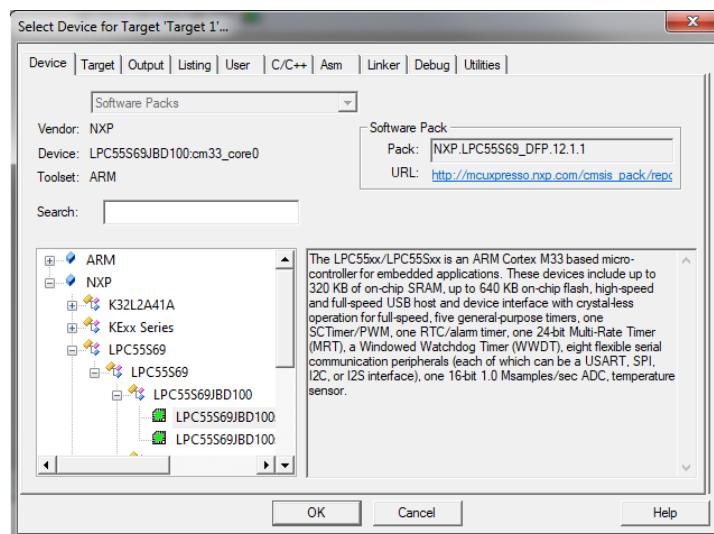

Figure 1-27. Select Device dialog
7. Click the MKV46F256xxx15LPC55s69 node, and then click OK. See Figure 1-27.